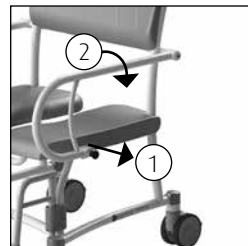

Figure 5 Armrest.
- The safety catch is pulled outwards to unlock the armrest (1) (See figure 5).
- The armrest can now easily be turned to the back (2) (See figures 5 & 6).